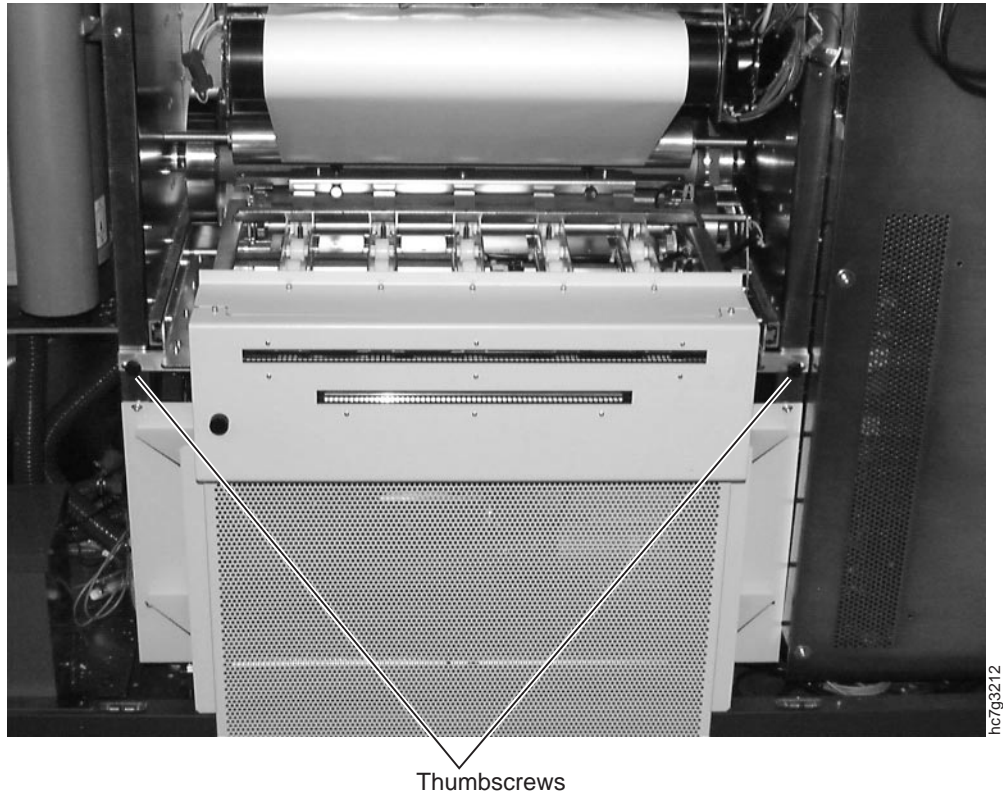

Figure 297. Cutter Assembly Thumbscrews
- Replace the black cutter assembly thumbscrews, as shown in Figure 297 on page 319, and cut the paper.